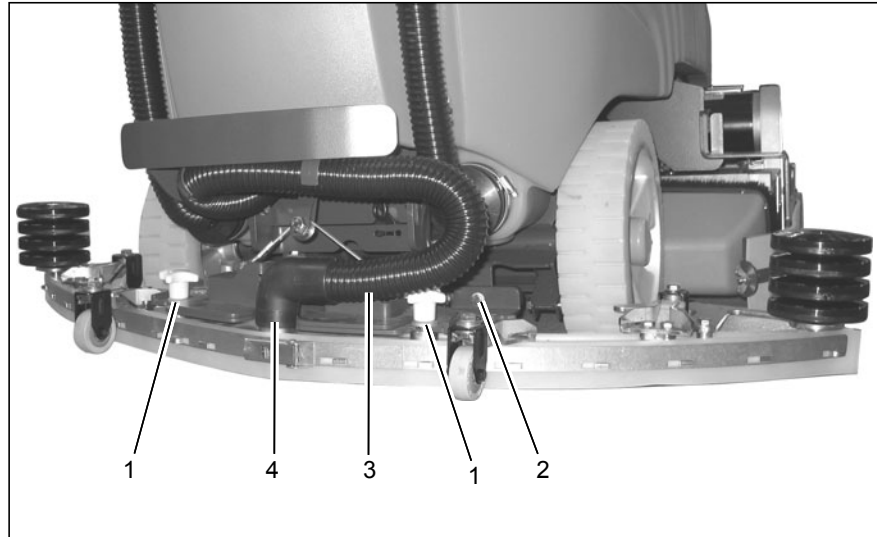

Fig.3
1. Use the star-shaped knobs (Fig. 3/1) to fix the squeegee on the squeegee lift (Fig. 3/2).
2. Connect the suction hose (Fig. 3/3) to the nozzle (Fig. 3/4).